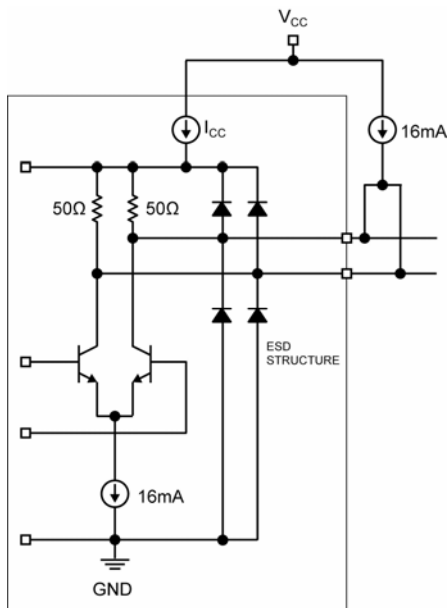

Figure 4. Power Supply Current Measurement
The SY88315BL generates a chatter-free SD open-collector TTL output with an internal $4.75\text{k}\Omega$ pull-up resistor as shown in Figure 4. SD is used to determine that the input amplitude is large enough to be considered a valid input. SD asserts high if the input amplitude rises above the threshold set by SD_{LVL} and de-asserts low otherwise. SD can be fed back to the enable (EN) input to maintain output stability under a loss of signal condition. EN de-asserts the true output signal without removing the input signals. Typical 3.4dB SD hysteresis is provided to prevent chattering.